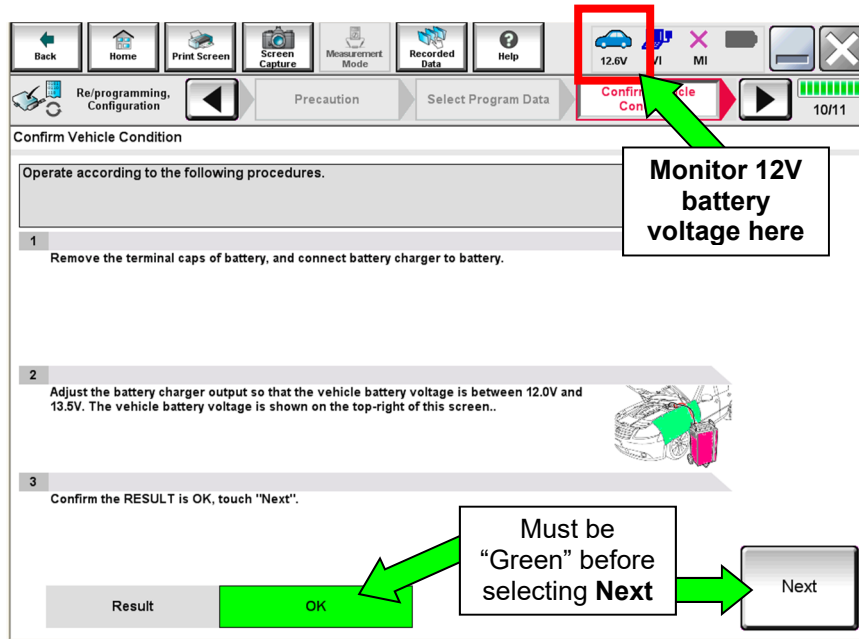

Figure 14
- If no **Saved Data List** is stored Figure 14 will be displayed. Proceed to step 19.